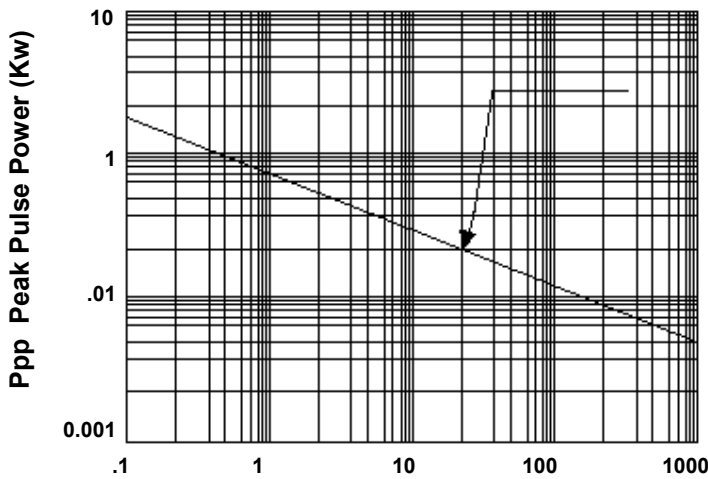

FIGURE 1
- Peak Pulse power 200 watts (8/20 μs Figure 1)